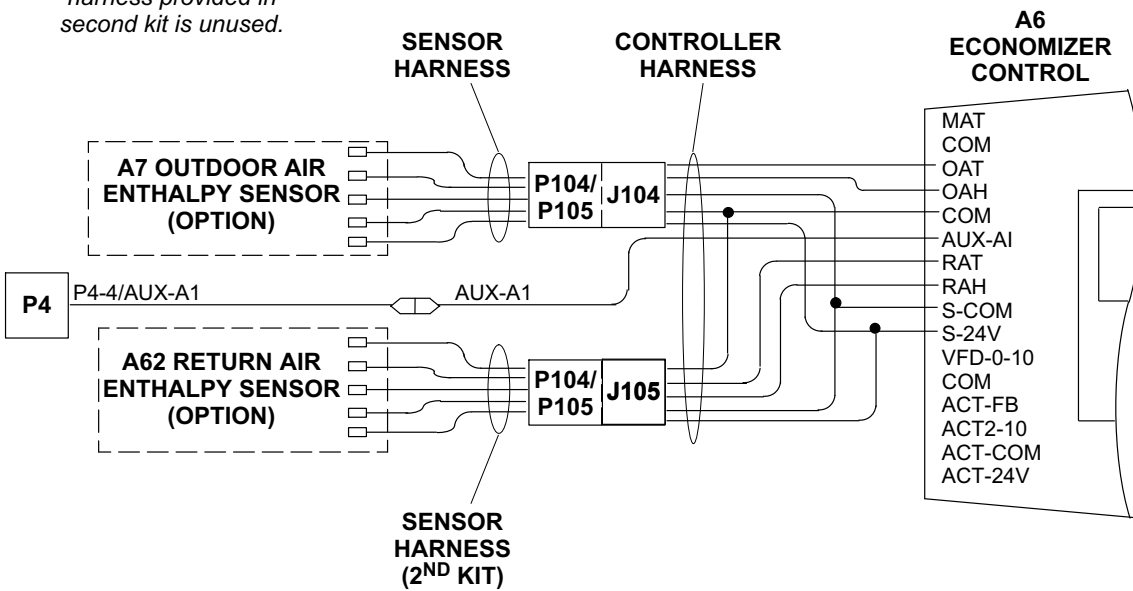

FIGURE 7
Identify harnesses by markings on wires. Refer to figure 7.
- 3- Connect other end of J105 controller harness into A6 economizer control as shown in figure 7.